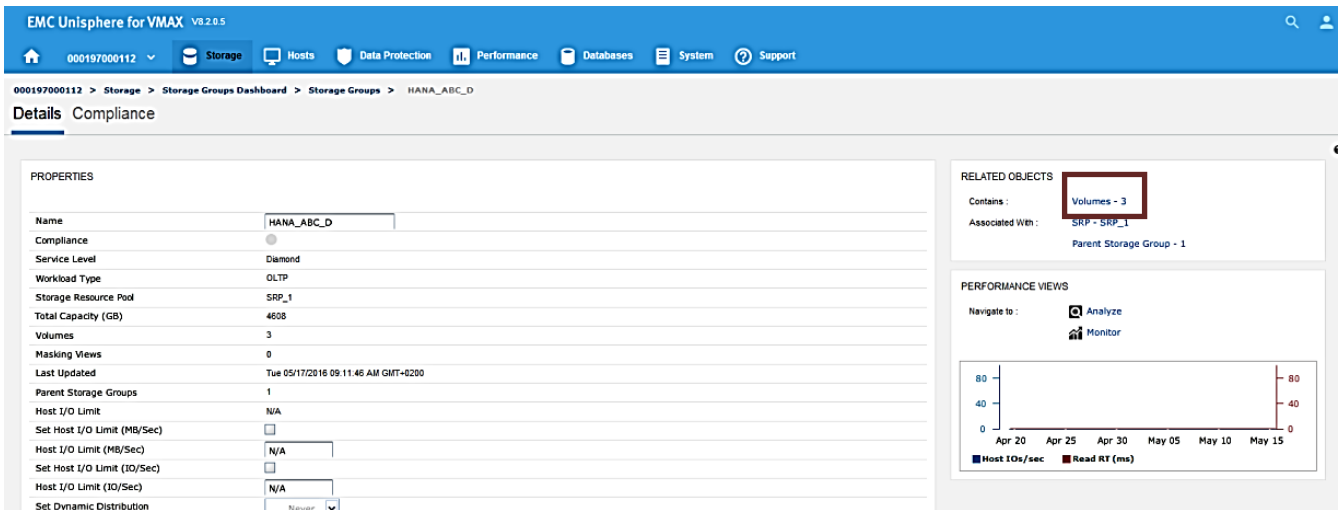

Figure 9. Created volumes
5. Select the **HANA\_ABC\_D** storage group and click **View Details** to view information about the volumes created, as shown in Figure 9.